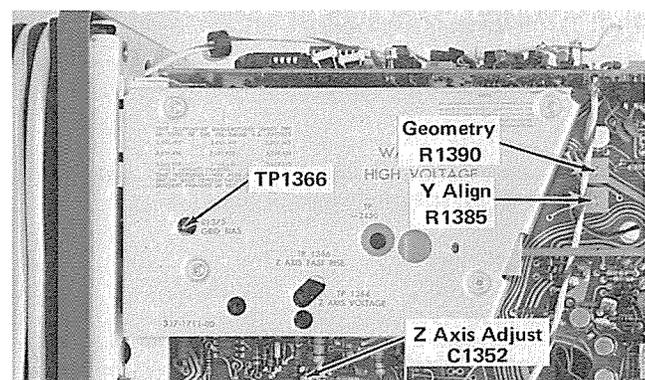

Fig. 5-4. Location of Y-Axis Align, Z-Axis, and Geometry adjustments and test point.
- f. ADJUST—Y Axis Alignment adjustment, R1385, (see Fig. 5-4) to align the center time marker with the center vertical line.
- b. ADJUST—Geometry adjustment, R1390 (see Fig. 5-4) for minimum curvature of the time markers across the viewing area.
- b. Connect the X10 probe from the Test Oscilloscope to TP1366 (see Fig. 5-4).
f. ADJUST—Z-Axis Compensation adjustment, C1352, using a low capacitance screwdriver, (see Fig. 5-4) for optimum square corner on the unblanking gate.